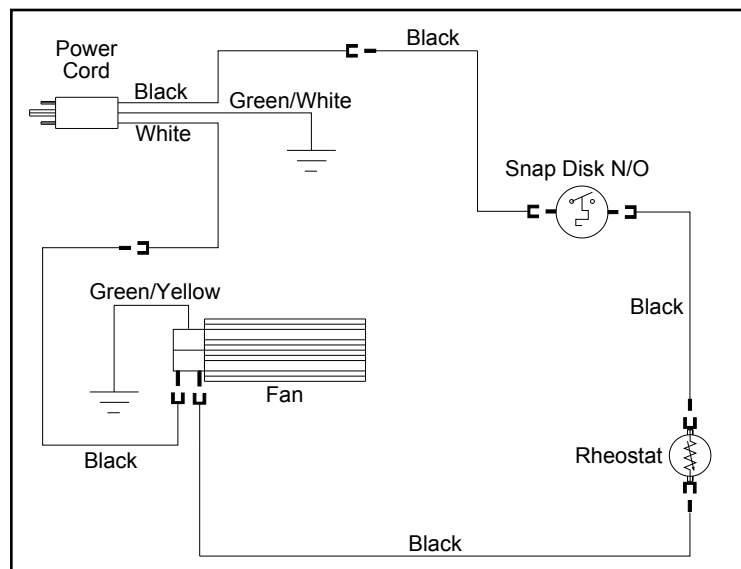

Figure 51: Wiring Diagram for Electric Fan.
4. Open the pedestal door and remove the four (4) T-20 screws holding the Control Panel in place.
5. Fit the Fan Unit into the cabinet being careful to work around the gas and pilot lines. The fan will fit up behind the gas valve. With an extension driver, fasten the Fan Unit in place with four (4) T-20 screws provided.
8. Plug in all the electrical connections as indicated in Figure 51. This includes the Fan Controller, Temperature sensor and Fan Unit.